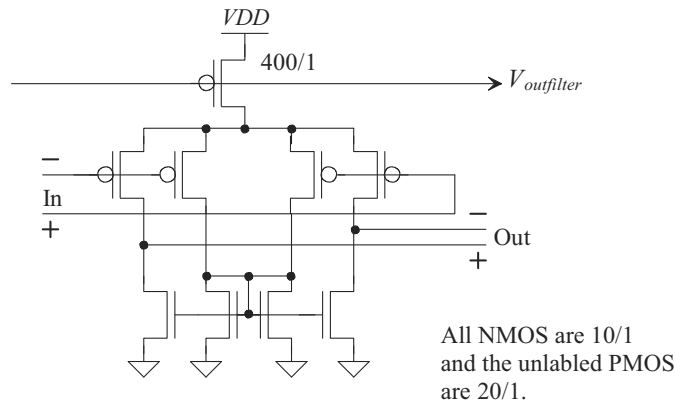

Figure 19.79 A delay element that doesn't use a reference voltage.
- 19.26** The delay element seen in Fig. 19.79 doesn't use a reference voltage. Show how this element can be used in the VCDL of Fig. 19.61. Note that the input capacitance of this delay stage is twice as large as the input capacitance of the element in Fig. 19.61 (and so you may have to use fewer stages to attain the same overall delay). How does the NMOS gate potential change with the inputs/outputs switching? Why? Is the output amplitude a function of V_{DD} ?